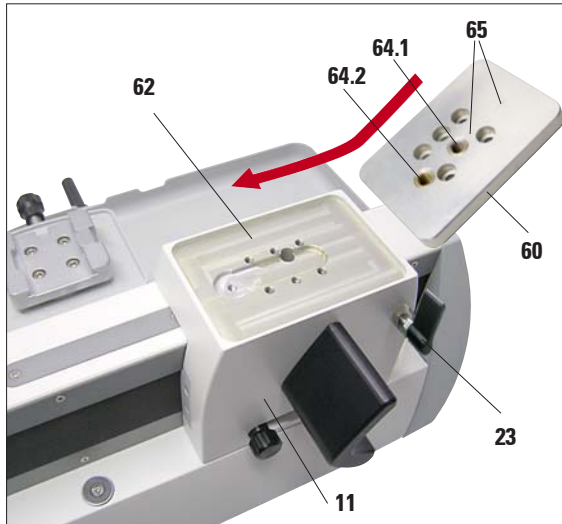

Fig. 9
- As shown in Fig. 9, place the intermediate plate on the mounting table. Please make sure that the two index markings (65) are at the top and point towards the back.